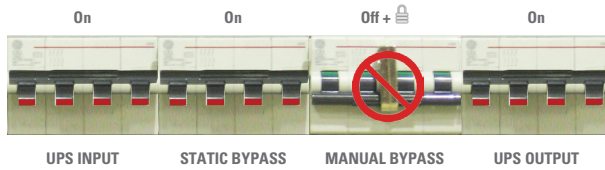

Fig. 11. Position of the bypass panel switches in «Normal operating» (with one UPS only).
- Turn the «UPS INPUT» and «UPS OUTPUT» switches of the bypass panel to «On». In case of including the separate bypass line (-B), turn the «STATIC BYPASS» switch of the bypass panel «On» too. In the illustration of Fig. 11, it is shown the position of switches once the manoeuvring has been done.